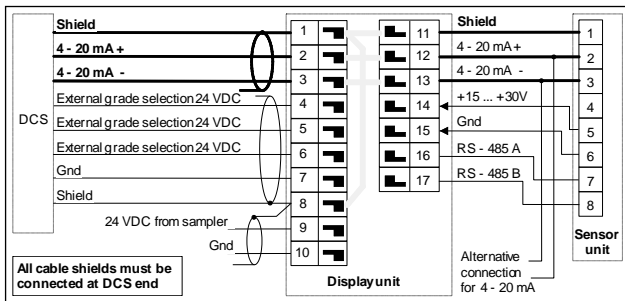

Figure 4. Wiring diagram.
- Install the interconnect cable into the display unit (fig. 4).
- Install 4 – 20 mA signal cable between DCS and the display unit (fig. 4). The display unit works and KC/3 is ready for configuration.